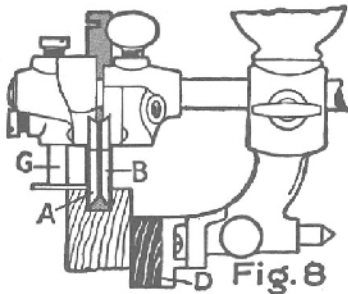

Fig. 8
Fig. 8—MATCHING (Groove)—Use the one-quarter inch plow cutter. Fence (D) regulates the distance of groove from face of board and Gauge (G) the depth of groove. No Spurs are necessary.